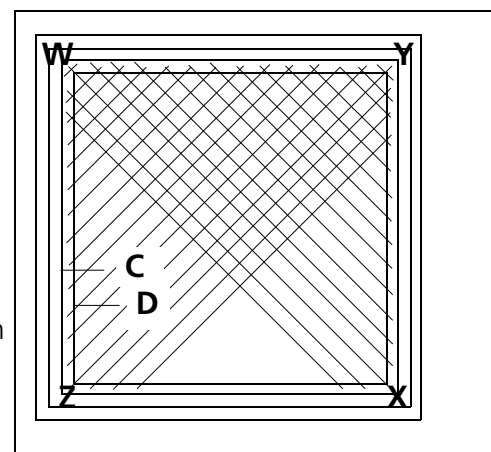
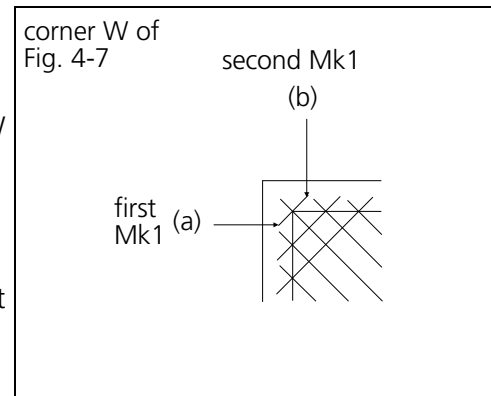

Figure 4-7
Figure 4-8
8. Digitize the two fills shown in Figure 4-7 with one diagonally from W to X, and another diagonal fill from Y to Z.
NOTE: When digitizing the two crisscrossing fills as shown in Figure 4-7, enter the Mark points for the fill beyond the inner line (D) midway between lines C and D.
9. Start the first diagonal fill at W in the illustration in Figure 4-7. Make the first line by entering a Mk1 at the lower left end of the plot line running diagonally on the corner shown as location (a) in the enlargement of the W corner in Figure 4-8.
10. Finish the first line at W in the Figure 4-7 by entering a Mk1 at the upper right end of the plot line running diagonally on the corner shown as (b) in the enlargement of the W corner in Figure 4-8.
11. Continue to digitize the first set of fill parameters by identifying the second line at X in Figure 4-7 in the same manner as in steps 8 and 9.
13. Now identify the second fill starting at corner Y in Figure 4-7. Identify it in the same fashion as you did the first fill.